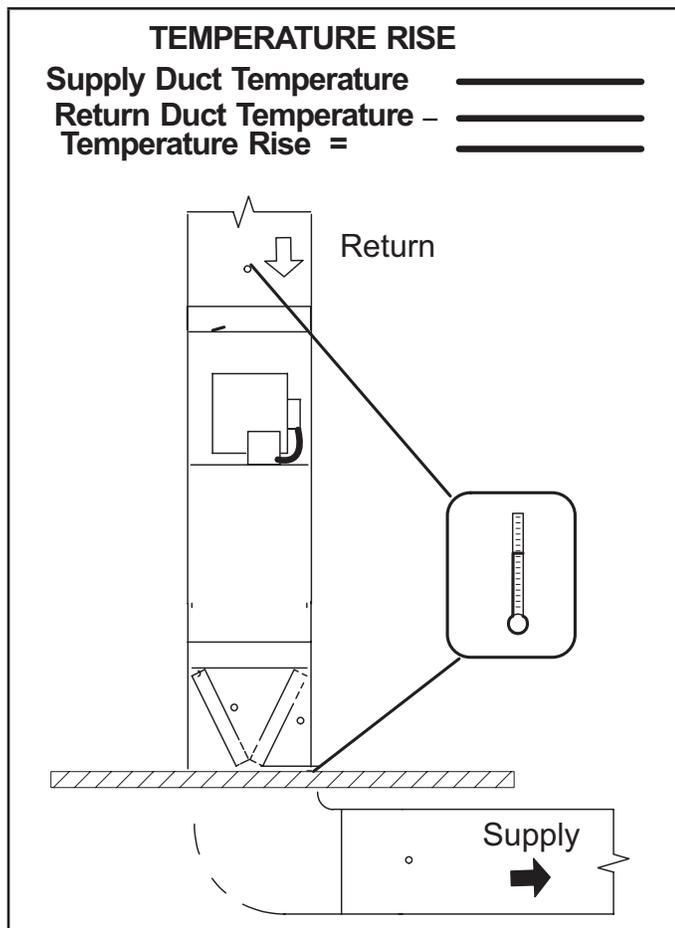

FIGURE 55
*Note - Figure 55 is a typical ignition control illustration.*
### B-Temperature Rise (FIGURE 55)